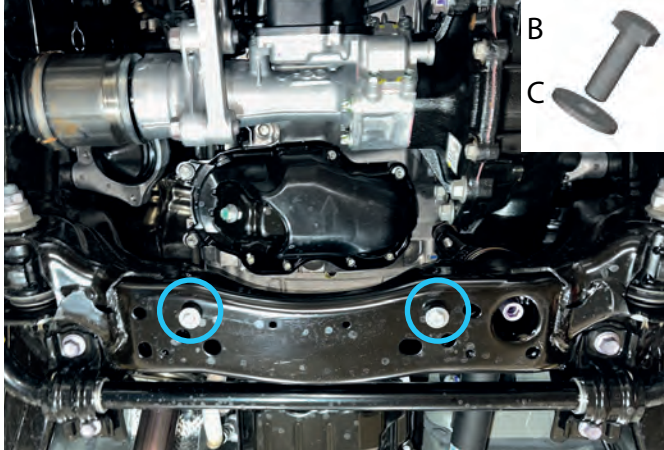

Fig. 7
7. Screw bolts M8x25 (item B) with washers M8 (item C) for 2-3 turns as shown in fig.7.